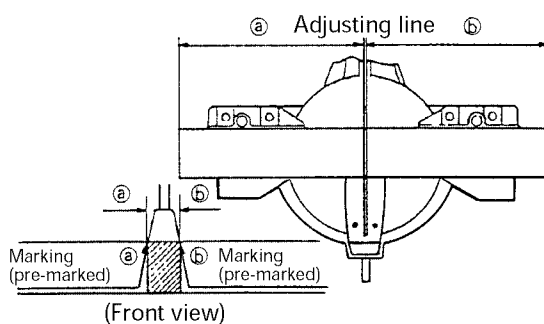

Fig. 21
- (1) As shown in Fig. 21 the width of the saw blade is the width of the cut. Therefore, slide the workpiece to the right (viewed from the operator's position) when length (b) is desired, or to the left when length (a) is desired. (Only Model C10FCH2)